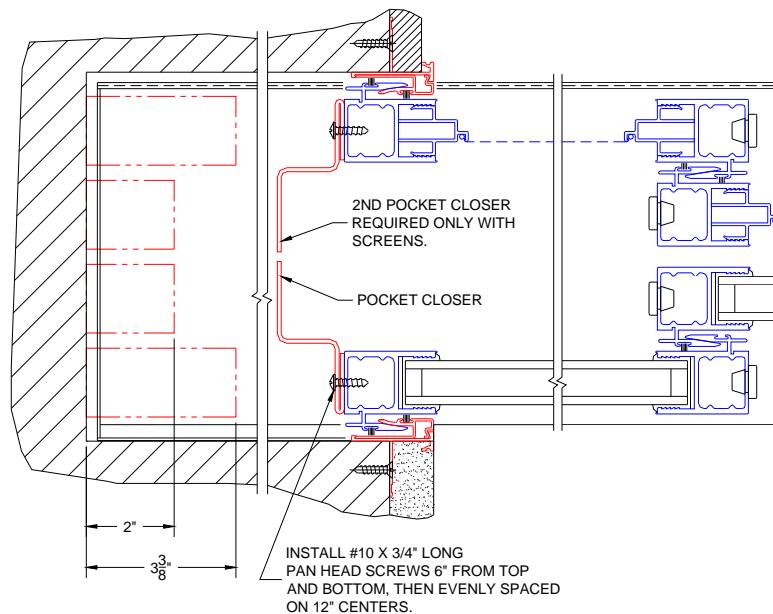

Figure 23:
4. Drill .136 diameter holes (#29 drill) thru pocket closer and one wall of interlocker. Holes to be located 6" from top and bottom of pocket closer, then evenly spaced on 12" centers. Assemble pocket closer to back side of interlocker with #10 x 3/4" long pan head screws (Figure 23).